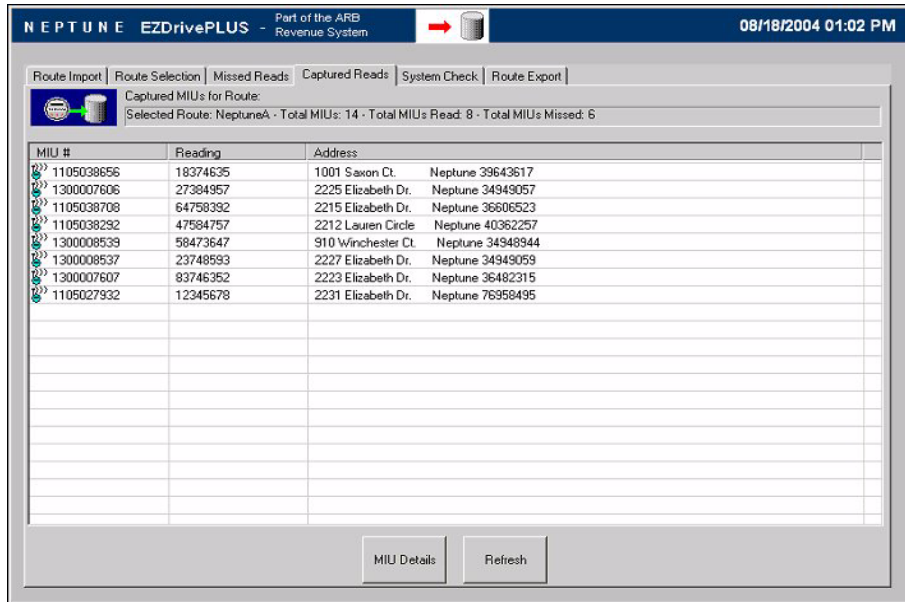

Figure 4.7 Captured Read Screen with Account Highlighted
- 2 Go to either the **Missed Reads** or **Captured Reads** screen, depending on whether or not the account has already been read. See Figure 4.7.